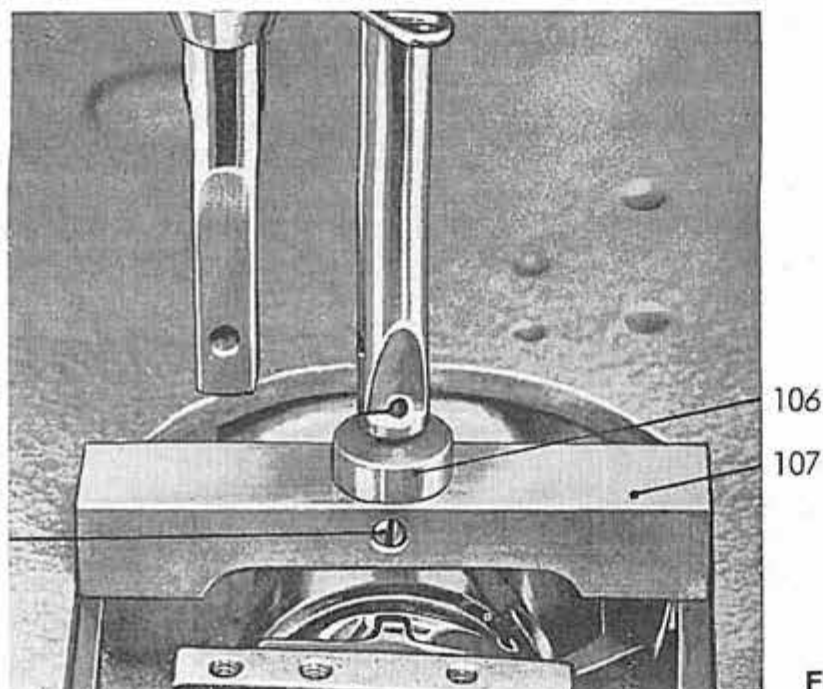

Fig. 18
For precise adjustment use the needle bar setting gauge (ref. No. 2161065), including the bridge 107 (fig. 18) (ref. No. 2161066) and the three following setting pins 106. For adjusting the loop stroke, arrest the machine in the "A" position.
1. Introduce the adjusting pin 106 (fig. 18), corresponding to the needle system used, into bridge 107 of the gauge.